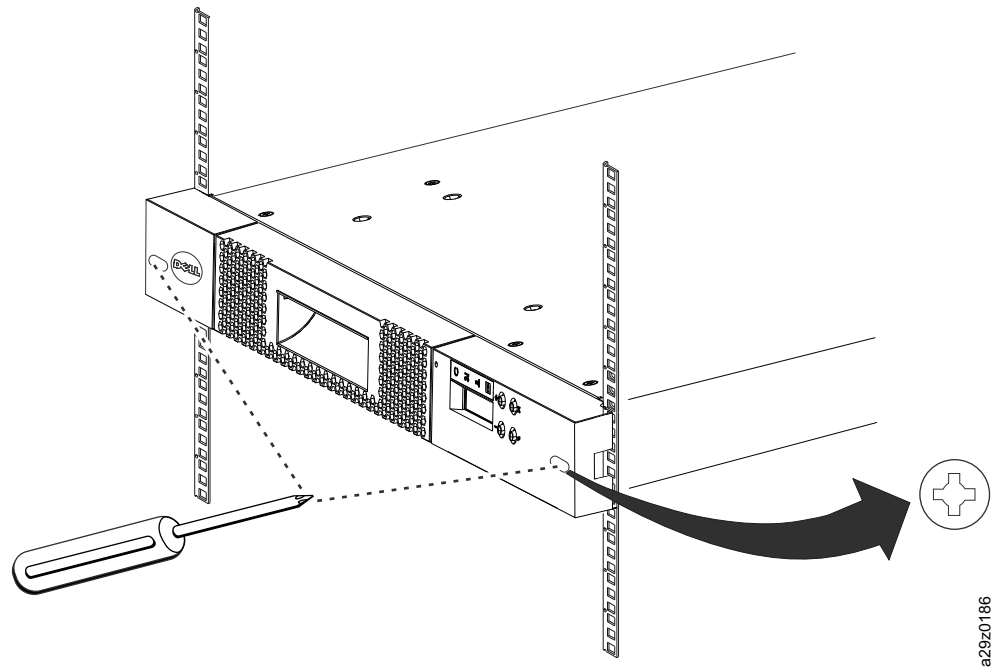

Figure 15. Securing the front of the library in the rack
8. Slide the library chassis into the rack. The heads of the large screws **11** appear through the oval openings on each side of the bezel. Use a Phillips screwdriver to attach these screws to the rack (Figure 15 on page 24).